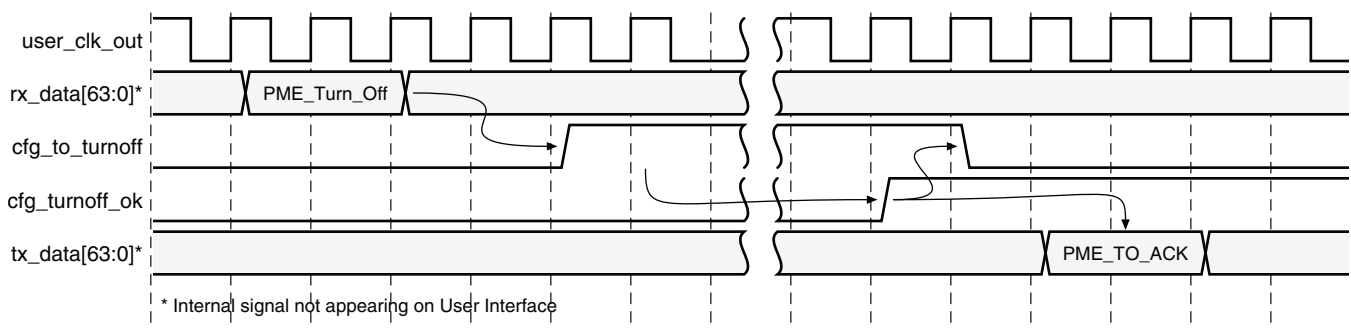

Figure 3-68: Power Management Handshaking: 64-Bit
4. The core sends a PME_TO_Ack when it detects assertion of `cfg_turnoff_ok`, as displayed in Figure 3-68 (64-bit).